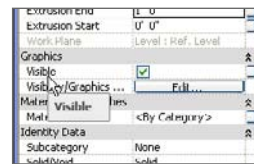

Figure 17.23
**Visible parameter** This parameter (as shown in Figure 17.23) has a check box and can also be connected to a Yes/No parameter (more about this part later). If you deselect the parameter, that element will not be visible in the project environment no matter what your user does to the family, short of editing and changing the family itself. This allows you to create line work or other geometry that might drive design intent but should not be visible itself. For example, this can be useful to define a clearance or conflict solid element that can be detected with Revit’s Interference Detection tool—detected but not seen.